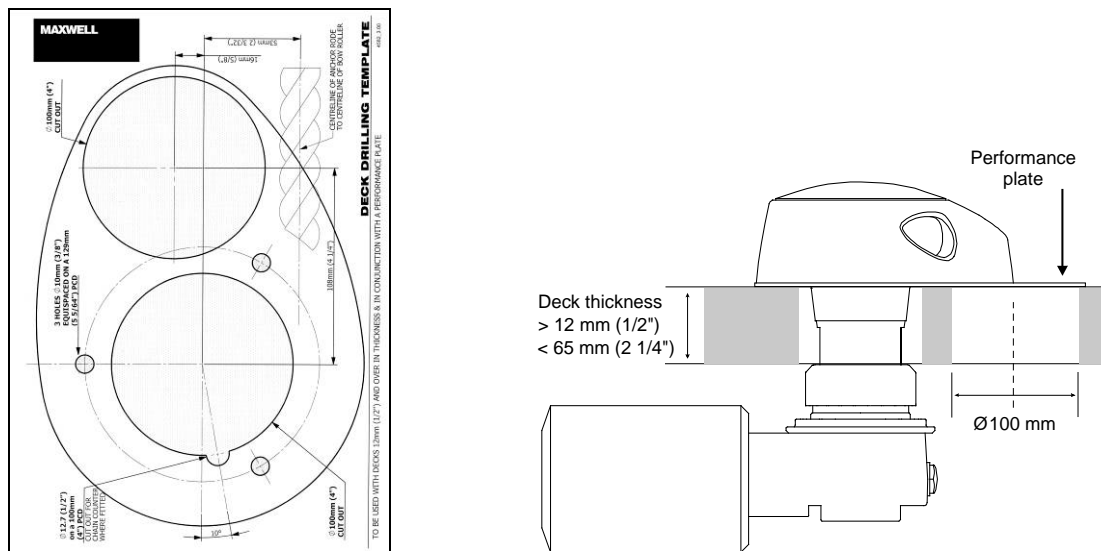

Figure 12 - Template for decks more than 12 mm (½ ") thick
If fitting the windlass to a deck 12 mm (½ ") or MORE in thickness, use the template shown in Figure 12 in conjunction with the performance plate supplied. The template is supplied at the back of this manual.
4. For decks thicker than 12 mm (½ ") use the performance plate as shown in Figure 12 on page 15.